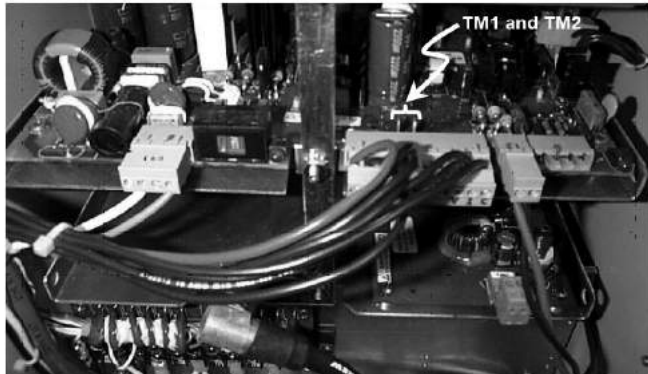

Figure 41. Location of terminals TM1 and TM2 on the power supply circuit board
1. Open the rear door of the Form 6 pole-mount control cabinet and locate terminals TM1 and TM2 on the power supply circuit board (**Figure 41**).